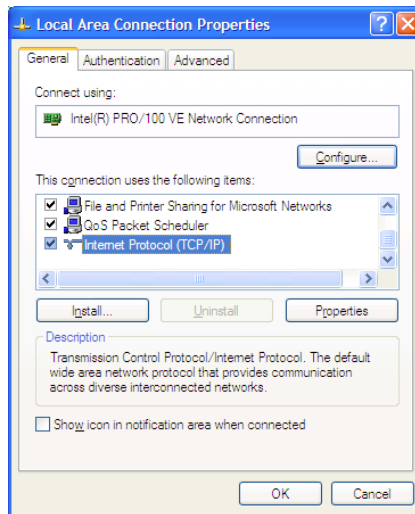

Figure 8. The Local Area Connection Properties Dialog Box
3. In the Local Area Connection Status dialog box, click the Properties button. The Local Area Connection Properties dialog box appears (Figure 8).